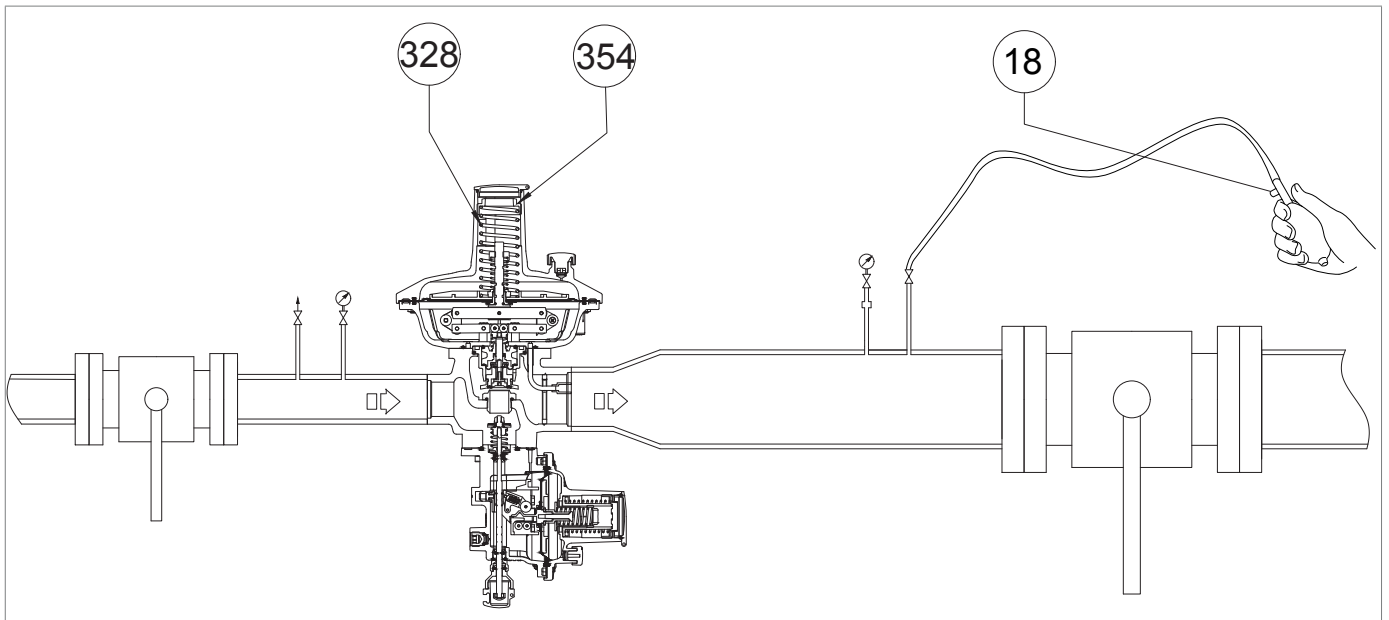
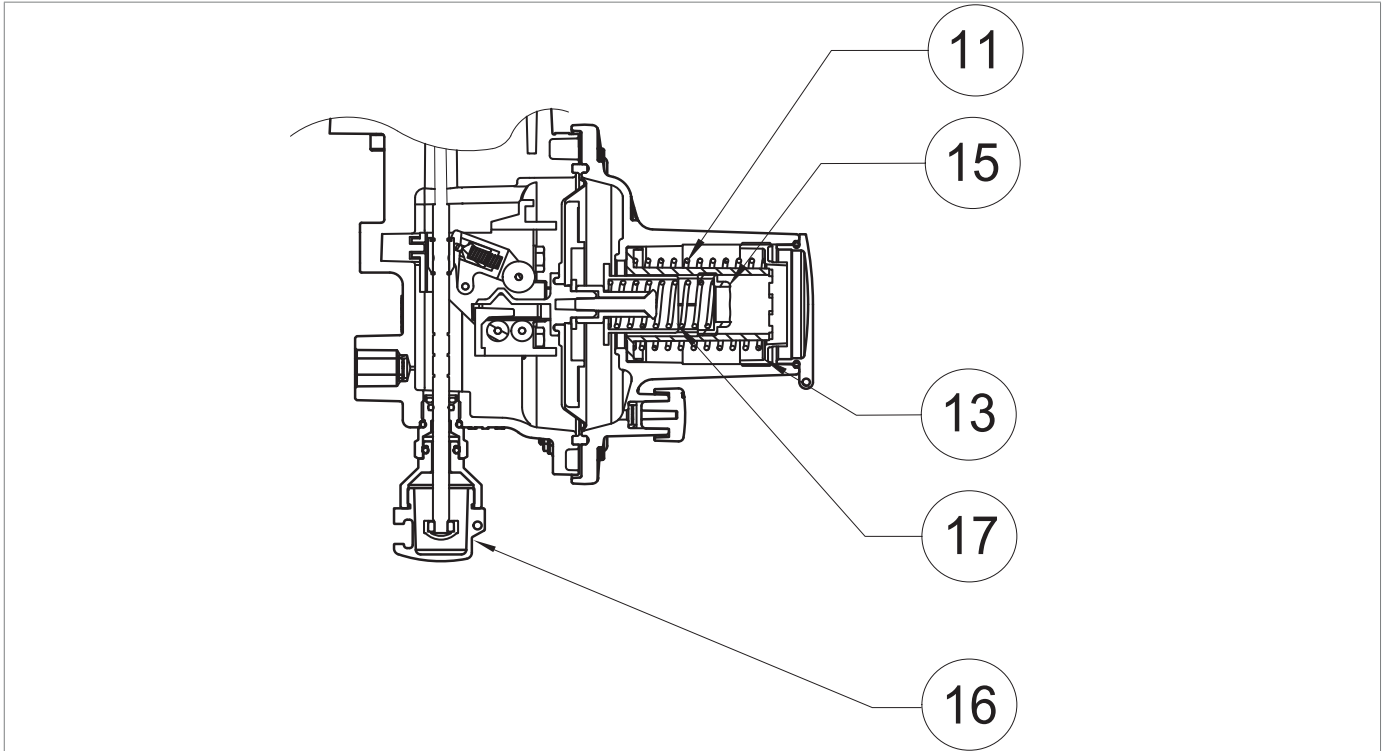
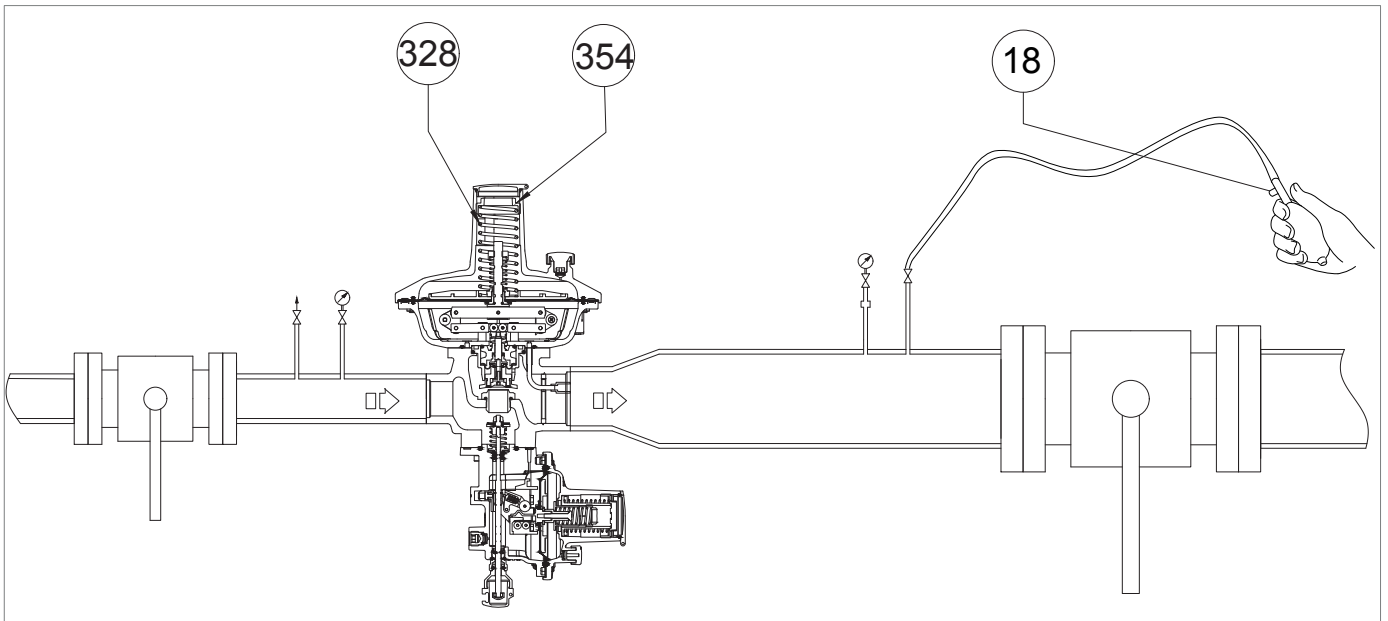

Fig. 8.22. Pressurising with external source for incorporated LA slam-shut valve
Fig. 8.20. Calibration of pressure switch for LA slam-shut valve
Fig. 8.21. Pressurising with external source for incorporated LA slam-shut valve
1	<p>Increase the downstream pressure to the tripping value of the slam-shut valve, connecting an external pressure source to the bleed cock (Fig. 8.20, ref. 6) placed on the downstream pipe, making sure to open an additional bleed cock (Fig. 8.22, ref. 18).</p> <div style="border: 1px solid blue; padding: 5px;"> <p>! NOTICE!</p> <p>Check the pressure referring to the downstream pressure gauge (Fig. 8.20, ref. 5).</p> <p>If the slam-shut valve:</p> <ul style="list-style-type: none"> • trips before the expected pressure value: screw in (clockwise) the adjustment ring nut (13) so as to further compress the spring (11); • does not trip at the expected pressure value: unscrew (anti-clockwise) the adjustment ring nut (13) so as to relieve the spring (11). </div>
2	Decrease the pressure of the downstream section by opening the additional bleed cock (Fig. 8.22, ref. 18) to bring it up to the calibration value of the main regulator.
3	Close the additional bleed cock (Fig. 8.22, ref. 18).
6	Disconnect the external pressure source from the bleed cock (Fig. 8.20, ref. 6).
1	Partially open the bleed cock (Fig. 8.20, ref. 6) to the atmosphere and keep it open for the next steps.
2	Turn the adjustment ring nut (Fig. 8.20, ref. 3) of the regulator anti-clockwise to decrease the downstream pressure (Pd) to the minimum pressure required for tripping of the slam-shut valve.
3	<p>If necessary, remove the closing cap (Fig. 8.22, ref. 354) together with the adjustment ring nut and remove the regulation spring (Fig. 8.22, ref. 328).</p> <div style="border: 1px solid blue; padding: 5px;"> <p>! NOTICE!</p> <p>Check the tripping pressure value of the slam-shut valve indicated on the downstream pressure gauge (Fig. 8.20, ref. 5).</p> </div>
4	<p>If the slam-shut valve:</p> <ul style="list-style-type: none"> trips before the expected pressure value, unscrew (anticlockwise) the adjustment ring nut (Fig. 8.21, ref. 15), to relieve the spring (Fig. 8.21, ref. 17); does not trip at the expected pressure value, screw in (clockwise) the adjustment ring nut (Fig. 8.21, ref. 15) to further compress the spring (Fig. 8.21, ref. 17).
5	<p>After having checked that the slam-shut valve trips at the preset value, proceed as follows:</p> <ol style="list-style-type: none"> Close the air vent valve (Fig. 8.20, ref. 6) Position the regulation spring (fig. 8.21, ref. 328), the end cap (Fig. 8.22, ref. 354), the adjustment ring nut (Fig. 8.20, ref. 3) Slowly open the upstream shut-off valve (V1) until the downstream pressure value (Pd) reaches the calibration value of the regulator, referring to the downstream pressure gauge (Fig. 8.20, ref. 5) Close the upstream shut-off valve (V1) Slowly and partially open the air vent valve (Fig. 8.20, ref. 6) to decrease the downstream pressure referring to the downstream pressure gauge (Fig. 8.20, ref. 5) until it reaches the minimum pressure tripping value Check the minimum pressure spring for proper calibration by repeating steps 2-3-4 at least three times Calibrate the main regulator referring to par. "8.5 - Regulator commissioning procedure"
7	Turn the adjustment ring nut clockwise (Fig. 8.20, ref. 3) to increase the downstream pressure to the regulator's setpoint.
9	Close the bleed cock (Fig. 8.20, ref. 6).